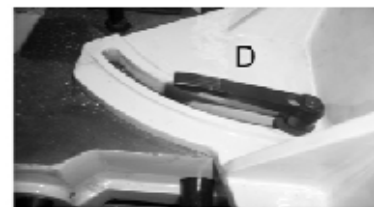

Fig.14
3. If an adjustment is necessary loosen clamp handle (D) Fig. 14. Loosen set screw and turn adjusting screw until the vise jaw is 90 degrees to the blade. NOTE: turn screw from the opposite end, through the face of the vise jaw. End of screw should contact stud of clamp handle when vise jaw is 90 degrees to the blade. Then tighten set screw.
4. If an adjustment is necessary, loosen clamp handle (D) Fig. 14. Loosen set screw and turn adjusting screw until the vise jaw is 45 degrees to the blade. NOTE: end of screw should contact stud of clamp handle when vise jaw is 45 degrees to the blade. Then tighten set screw.